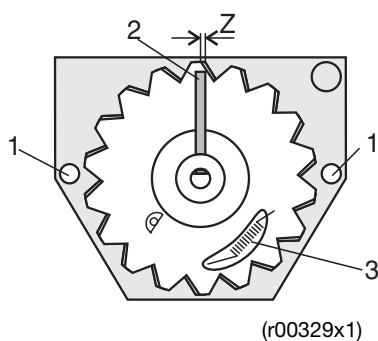
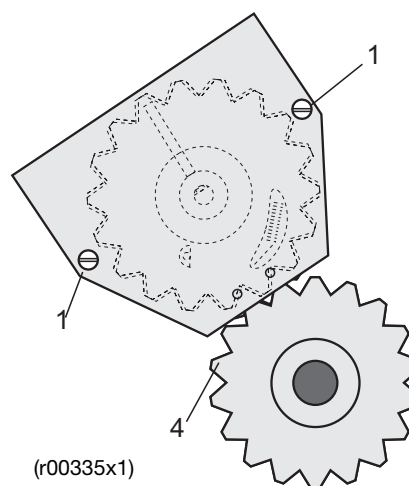

Fig. 13: Position sensor
Fig. 14: Mounting position
- set the stop pin to the center position, as seen in Figure 13
- connect the plug (5) to the PCB
- align the sensor and its gears with the actuator; set the first toothed gear in 11:00 o'clock position (see Figure 14) onto the drive shaft gear (4)
- fasten the screws (1) tightly.